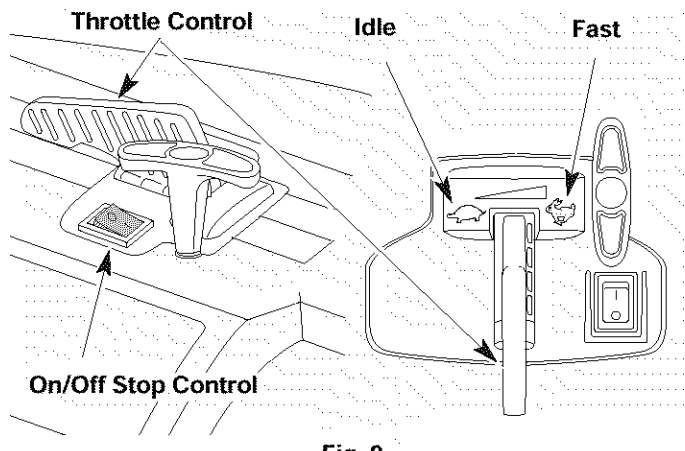
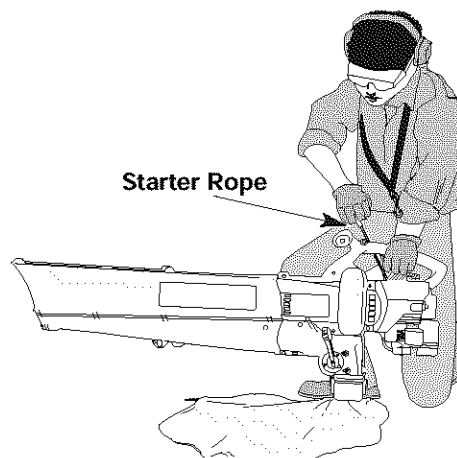

Fig. 9
Fig. 11
WARNING: Avoid accidental starting. Make sure you are in the starting position when pulling the starter rope (Fig. 11). To avoid serious injury, the operator and unit must be in a stable position while starting.
5. Place the unit in the starting position (Fig. 11). Move the throttle control to the fast position (👉) (Fig. 9).
8. Pull starter rope briskly 1 to 3 times to start the engine (Fig. 11).
NOTE: Choking is unnecessary when starting a warm engine. Put the throttle control in the fast position (👉) (Fig 9) and start unit with the choke control in Position **B**.